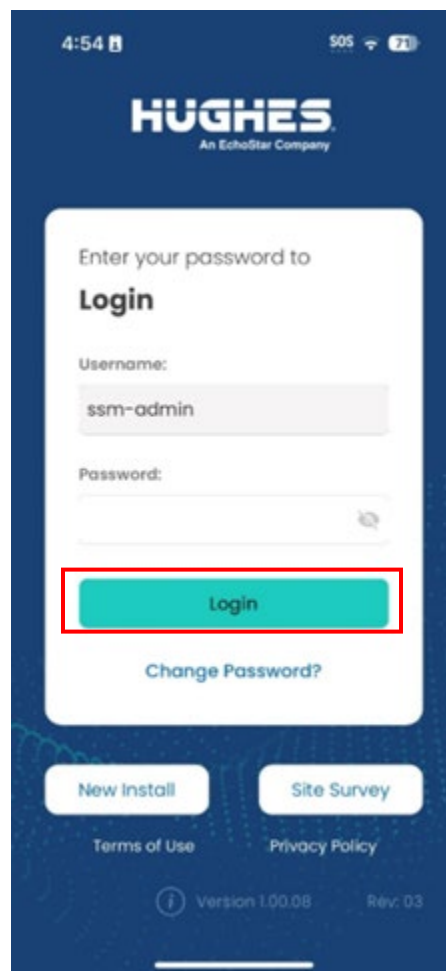

Figure 104: Login screen for status check
3. Once the login screen appears, enter the password for the local user interface and click on the **Login** button shown in Figure 104.